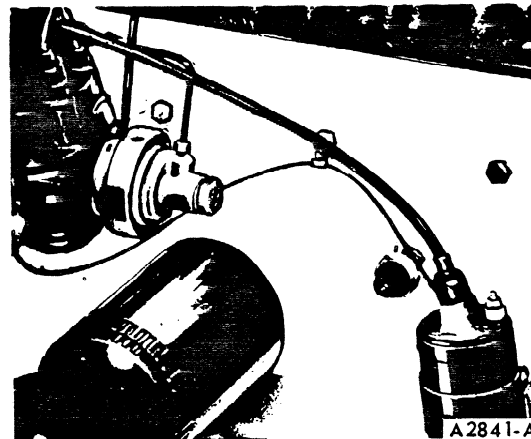

FIG. 60 Oil Filter Installed — Typical
2. Coat the gasket on the filter with oil. Place the filter in position on the cylinder block (Figure 60). Hand-tighten the filter until the gasket contacts the adapter face, then advance it 1/2 turn.